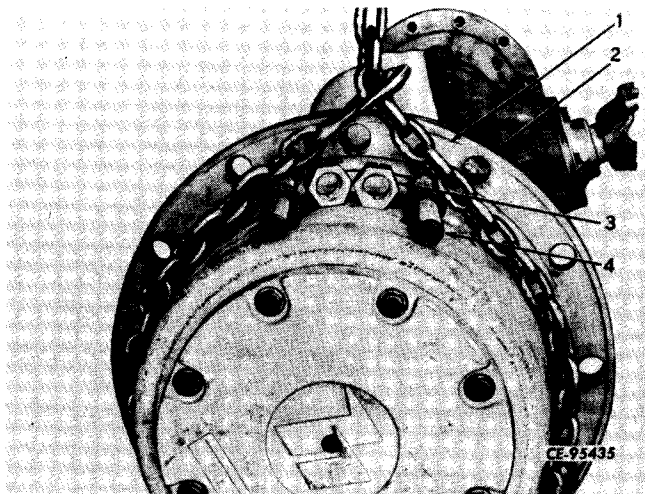

Figure 6-4
Punch mark planetary carrier (1, Fig. 6-4) and hub bearing unit (2) to aid in assembly.